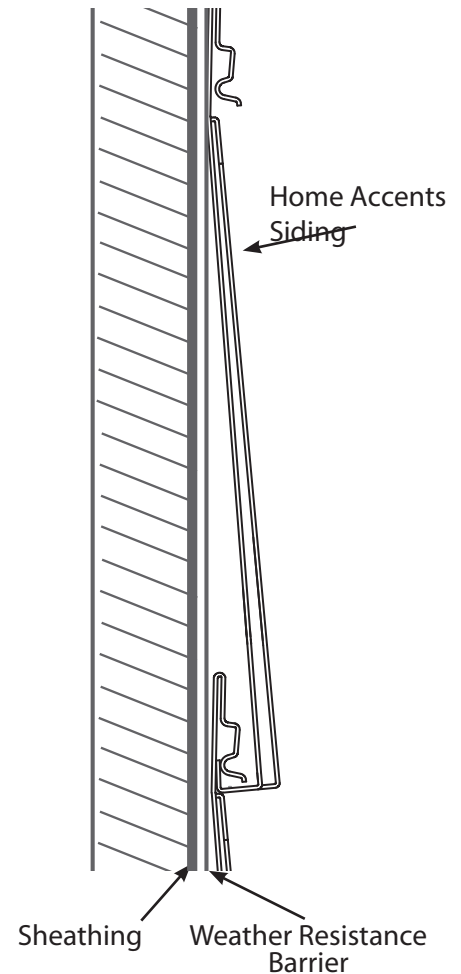

FIGURE 4
- A weather-resistant barrier should be applied to the house prior to installing Home Accents siding (**FIG 4**). Consult your local building code for requirements in your geographic area.